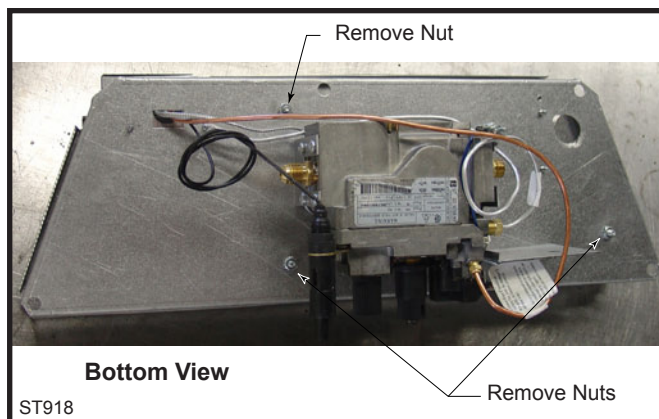

Fig. 80 Remove three (3) nuts securing ember bed in place.
1. Remove three (3) 3/8" nuts on bottom side of burner pan. (Fig. 80)
2. Thread and tighten 3/8" nuts back onto pem studs on underneath side of control panel, reversing Step 1 shown in Figure 80.